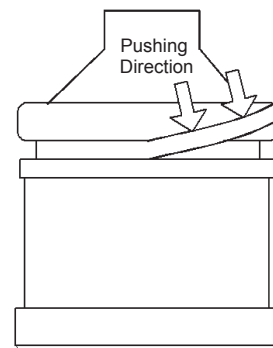

Figure 8 - Installing Seal Ring
1. To insert the seal ring in the valve plug groove, place it over the conical top of the plug, then push down evenly from all sides until the ring slips into the groove. See Figure 8.
Figure 8 details the tightening sequence for the bonnet/body bolts torques for a 72000 Series. Evenly apply torque to the amount indicated on the valve assembly drawing (typical torque values for SA193 B7, SA193 B7M, and SA193 B16 bolting materials are provided as references in Table 2).